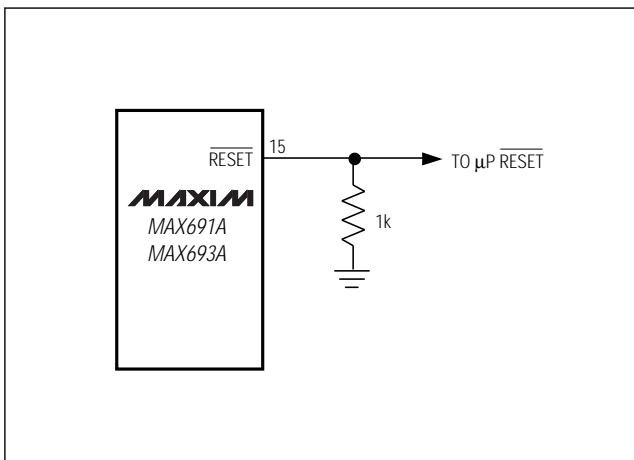

Figure 1. Adding an external pull-down resistor ensures  $\overline{\text{RESET}}$  is valid with  $V_{\text{CC}}$  down to GND.
guaranteed to be valid down to VCC = 1V, and an external 10kΩ pull-down resistor on RESET insures that it will be valid with VCC down to GND (Figure 1). As VCC goes below 1V, the gate drive to the RESET output switch reduces accordingly, increasing the RDS(ON) and the saturation voltage. The 10kΩ pull-down resistor insures the parallel combination of switch plus resistor is around 10kΩ and the output saturation voltage is below 0.4V while sinking 40μA. When using a 10kΩ external pull-down resistor, the high state for RESET output with VCC = 4.75V will be 4.5V typical. For battery voltages ≥ 2V connected to VBATT, RESET and RESET remain valid for VCC from 0V to 5.5V.